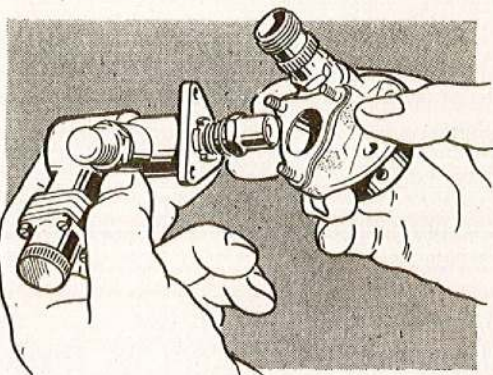

Fig. 4. Removing the valve assembly
10. Unscrew the three 2 B.A. nuts securing the electro-hydraulic valve to the torch igniter body and remove the valve assembly (fig. 4). Discard the joint packing.